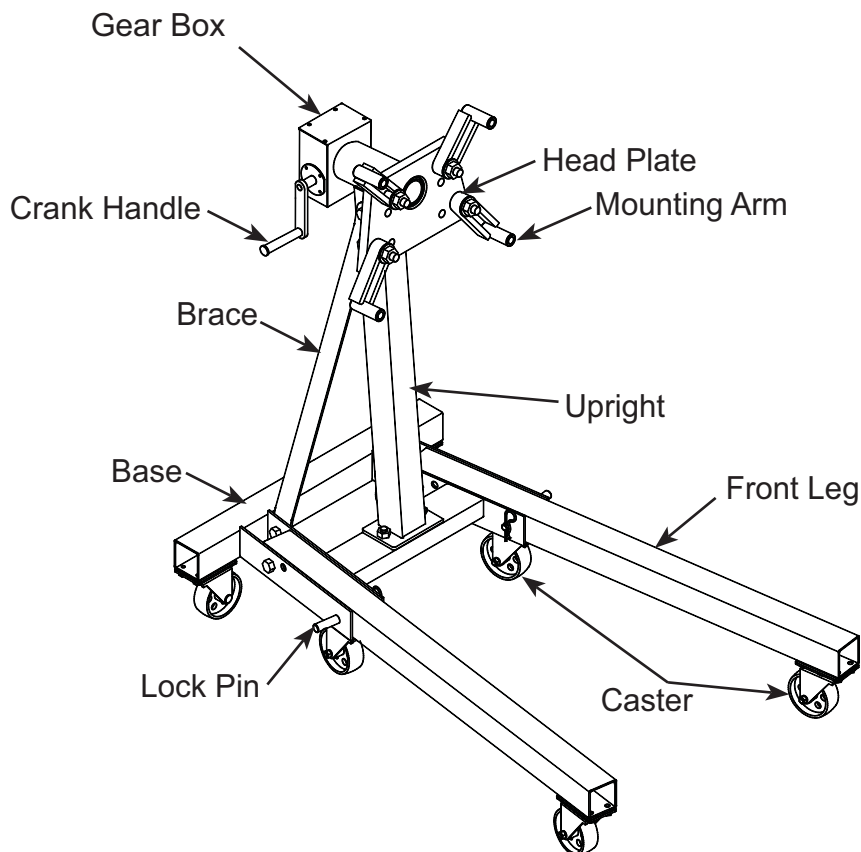

Figure 1 - Model ATD-7479A components
4. For model ATD-7479A, slowly and carefully engage the crank handle (see Fig. 1). **Use precaution when rotating as this model does not contain a rotating mechanism lock.**